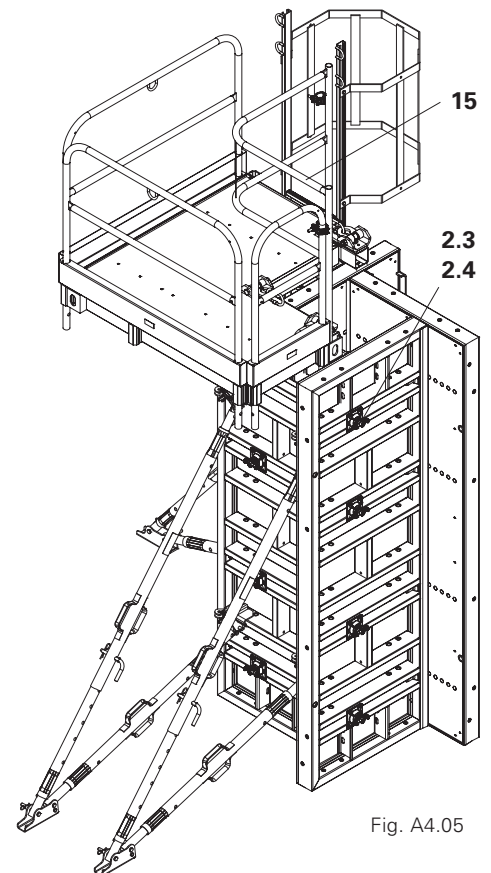

Fig. A4.05
1. Insert the TRS Clamp (2.4) into the TRS Inserting Nut (2.3) from the outside and tighten, see A3 Formwork Halves. (Fig. A4.05 + A4.05a)